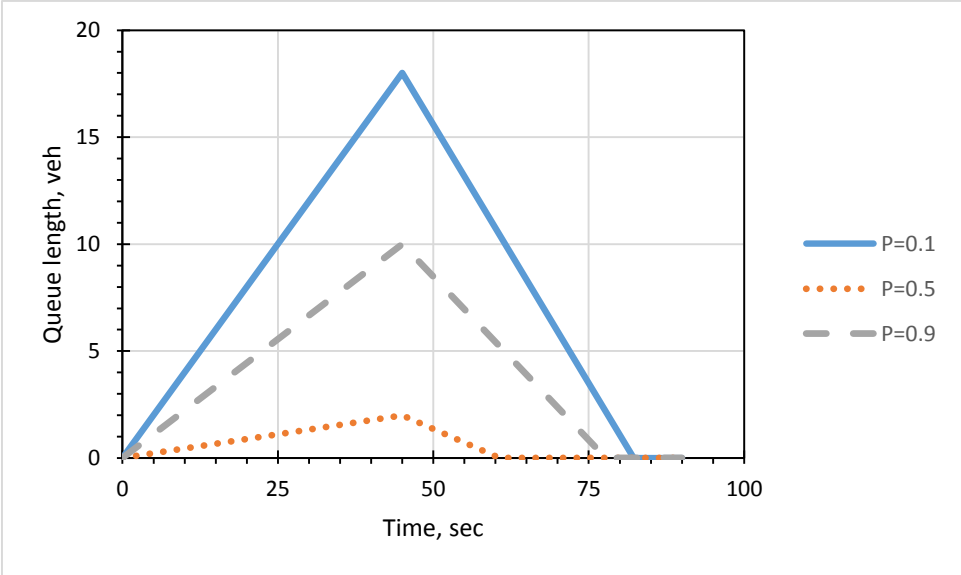

Figure 1. Queue accumulation polygons for three cases of P
1. Based on the computed values of P and R_p , and comparison of these values with those shown in Table 1 and the three queue accumulation polygons (Figure 1), what is your assessment of the quality of progression on this intersection approach.